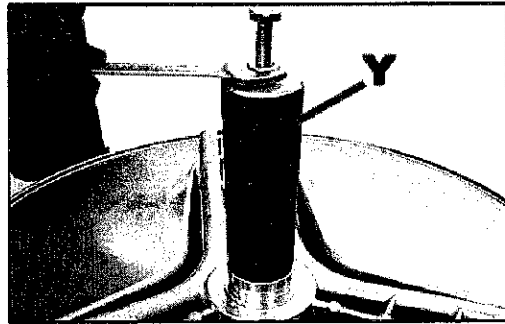

fig. 28
- Lubricate the shaft with soapy water and insert the ring seal into the shaft using the Y tool until fully tightened to the drum (fig. 28)